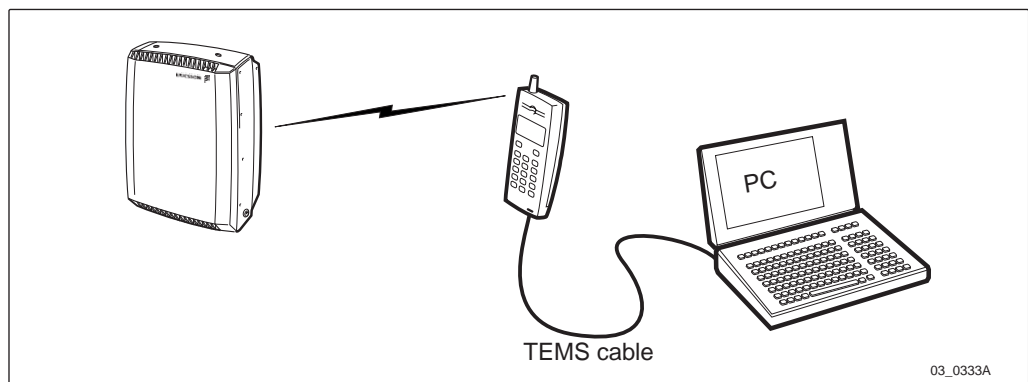

Figure 97 Test setup for test call on air interface
1. Connect the test mobile as shown in *Figure 97 on page 130*.